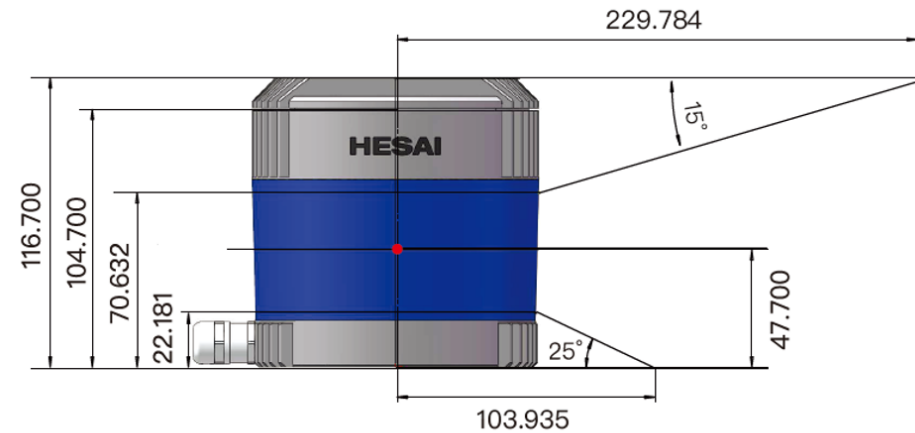

Figure 5. Laser firing position (unit: mm)
- The origin is shown as a red dot in Figure 5. All measurements are relative to the origin.